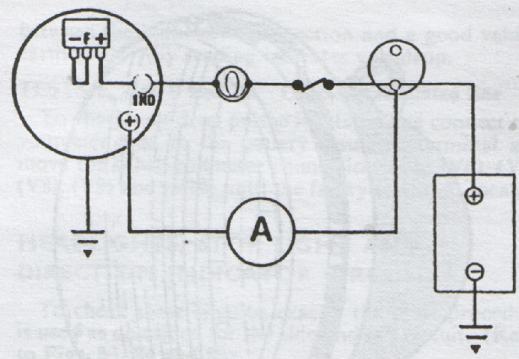

Fig. 79 Checking alternator maximum output
- (b) Connect an ammeter between the starter solenoid terminal and the alternator main output cable, Fig. 79.